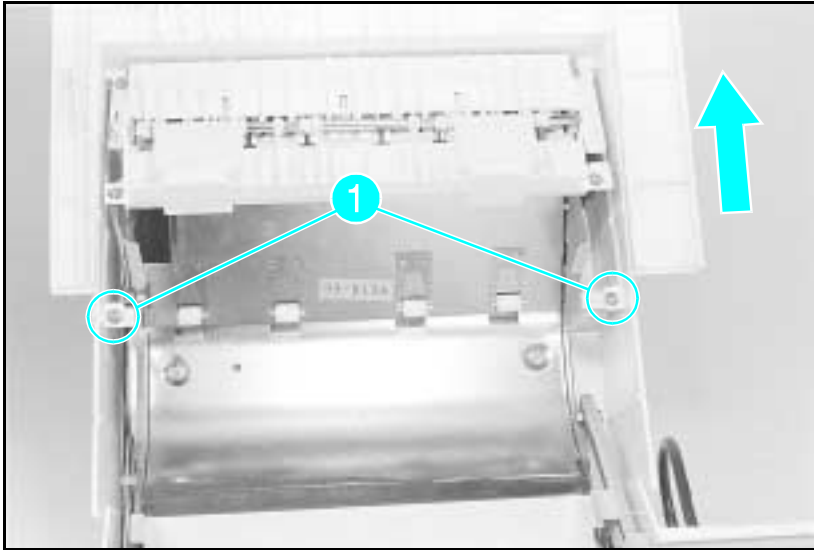

Figure A-5 **Switchback Cover**
- 1** Remove the (2) screws shown in Figure A-5, callout 1.